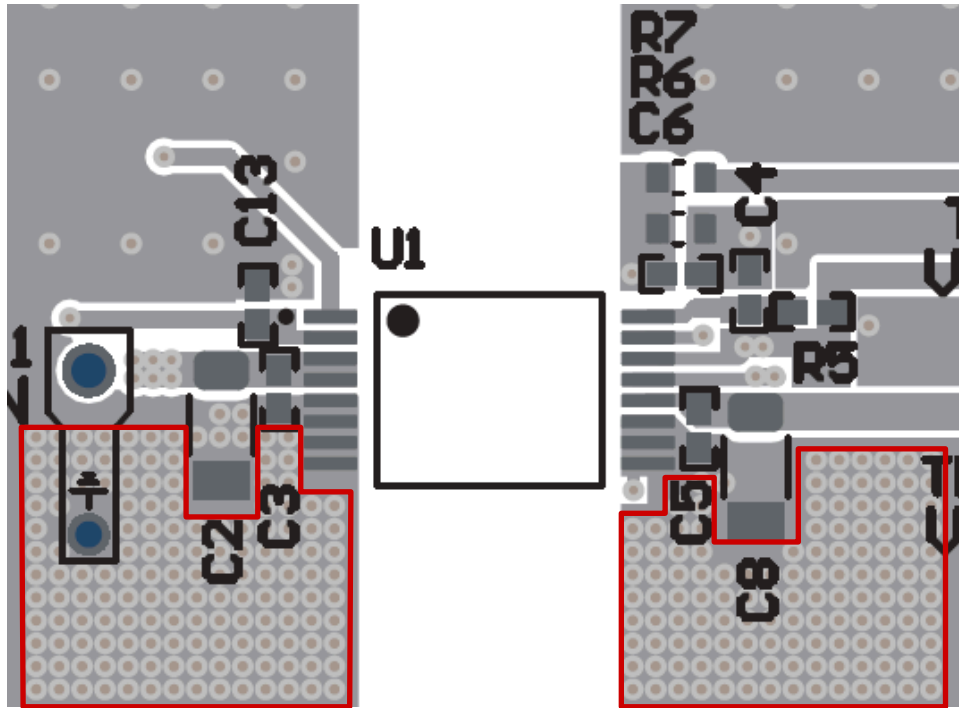

Figure 8-7. Thermal Vias
- f. A layout example is shown in Figure 8-7. For cases where less copper area is available, use as many thermal vias as the design permits, placed close to pins 5-8 (primary) and 9-11 (secondary).